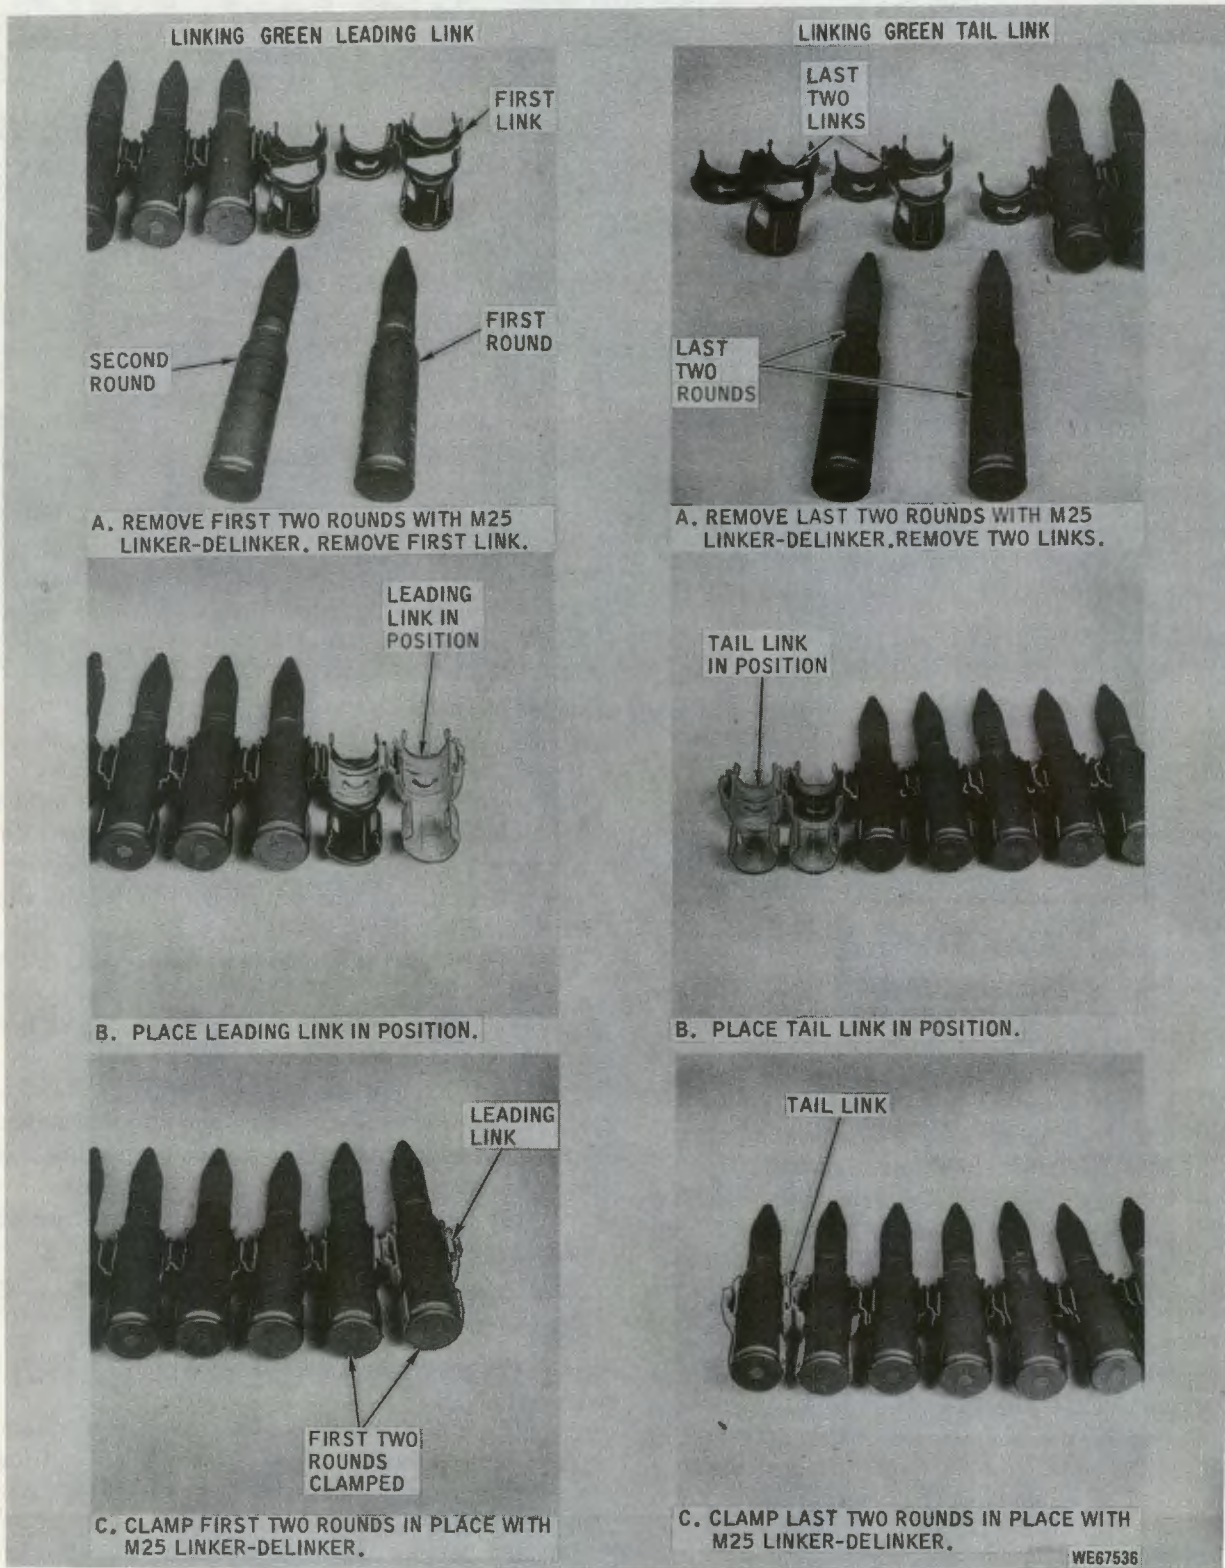
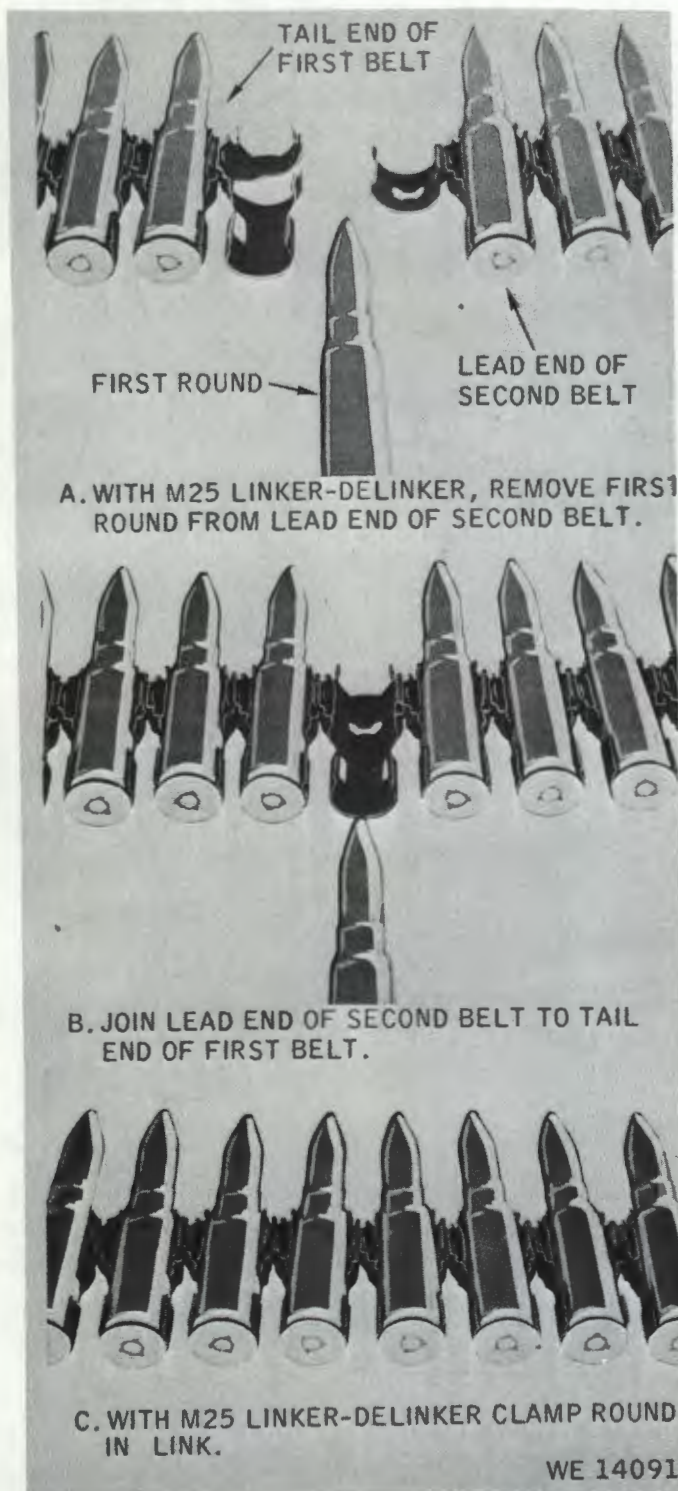
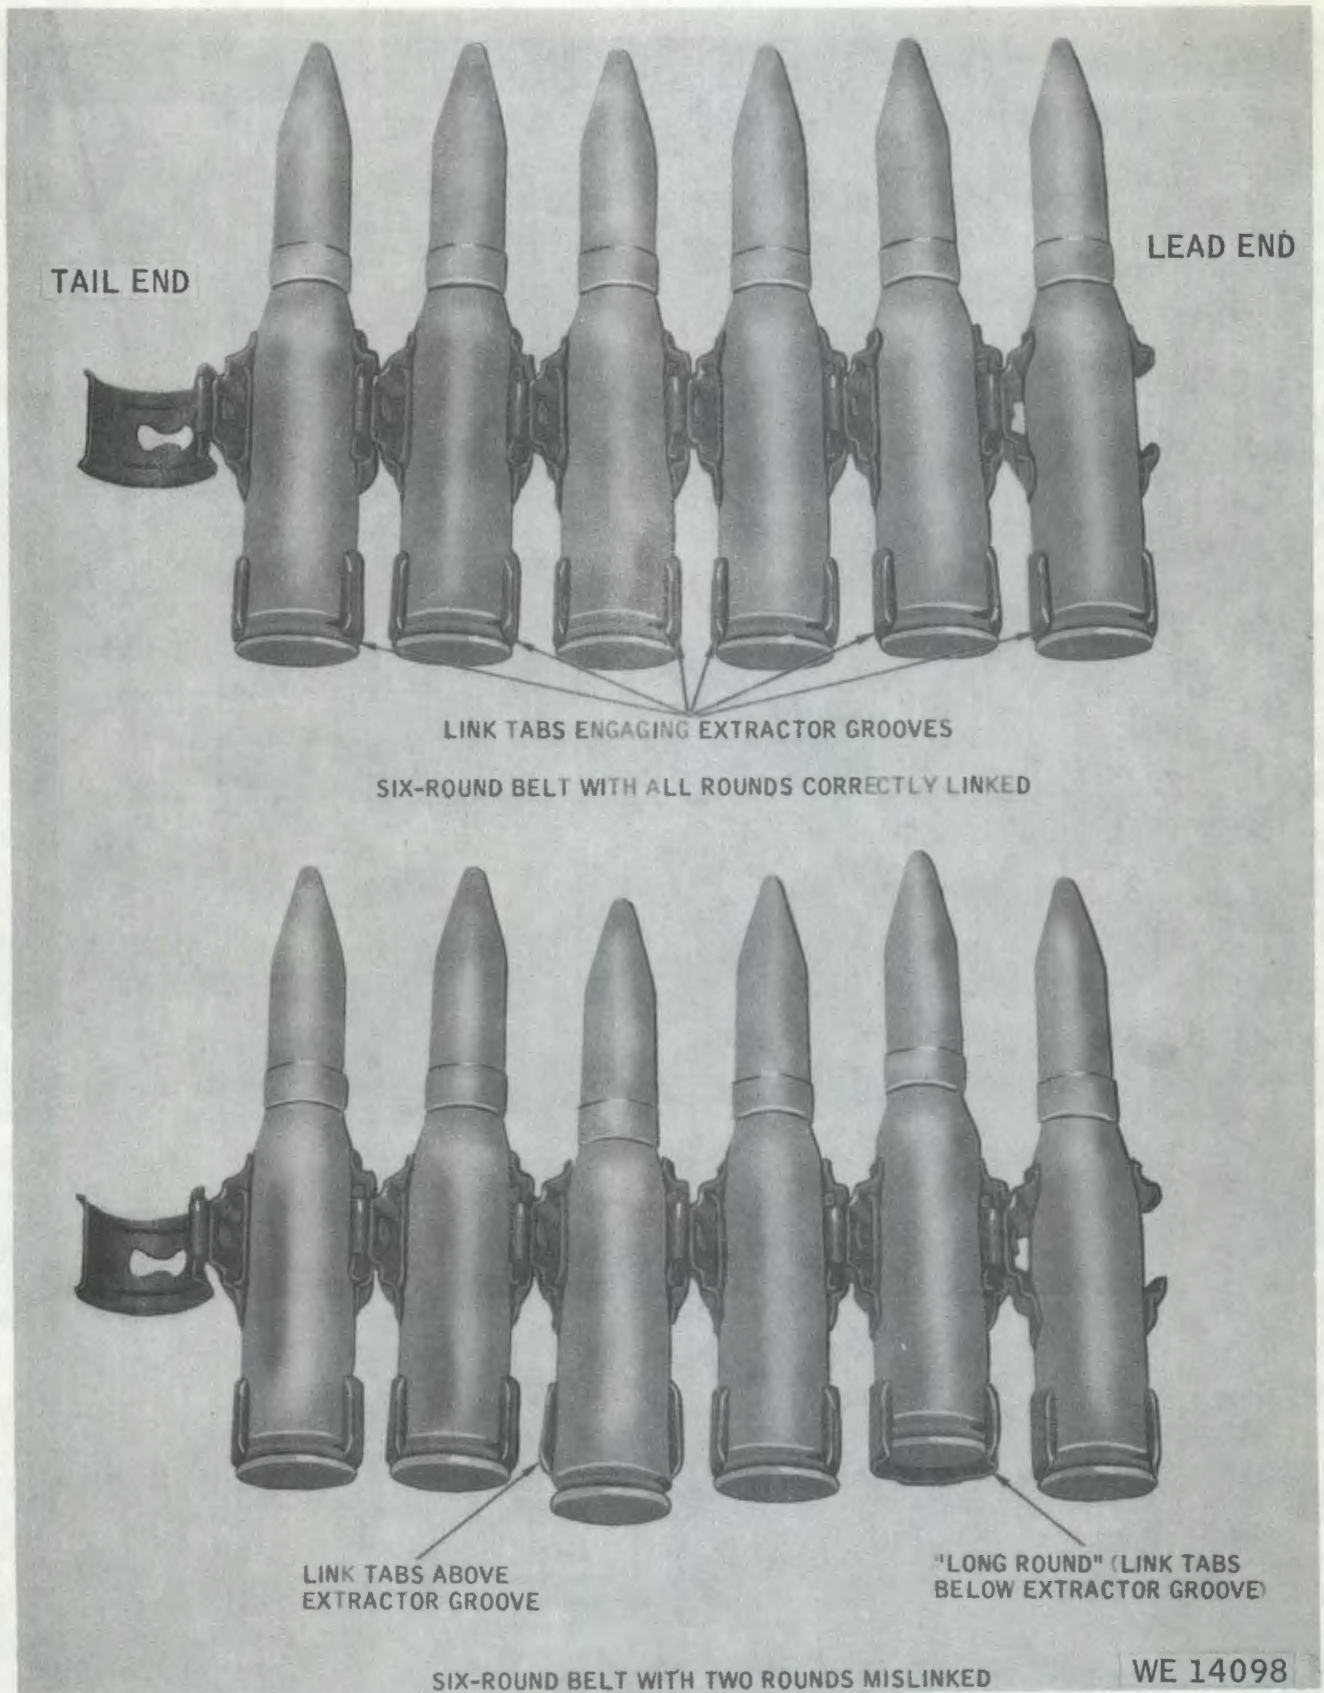

Figure 2-49. Linking the green leading and green tail links.
Figure 2-50. Connecting two belts of ammunition.
Figure 2-56. Correctly and incorrectly linked ammunition.
to figure 2-49 for linking the leading and tail links. Refer to figure 2-50 for connecting two belts together.
(13) Lay out ammunition so that open side of links are down and check that each round in belt is linked correctly (fig 2-56).
(14) Replace first link with leading link (fig 2-49) supplied with system.
(b) Splice a new belt to the end of belt being loaded (fig. 2-50). Check that each round in belt is linked properly (fig. 2-56).
e. Lay ammunition out on floor of chassis with open side of links up, rounds pointed toward right wall, and tail end of the belt (fig. 2-56) nearest the turret ammunition drum.
f. Check that each round is linked correctly (fig. 2-56).
i. If additional belts are to be stowed, splice new belt to stowed belt (fig. 2-50) and continue as in g. preceding. Install leading link on end of last belt to be suspended.